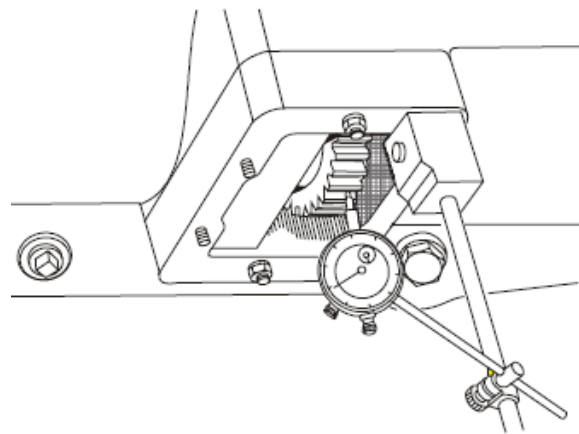

Figure 5 Checking PTO Adaptor-to-Transmission Backlash
- d. Install a dial indicator onto the adaptor housing with the dial indicator plunger resting squarely on the adaptor gear (Fig 5).